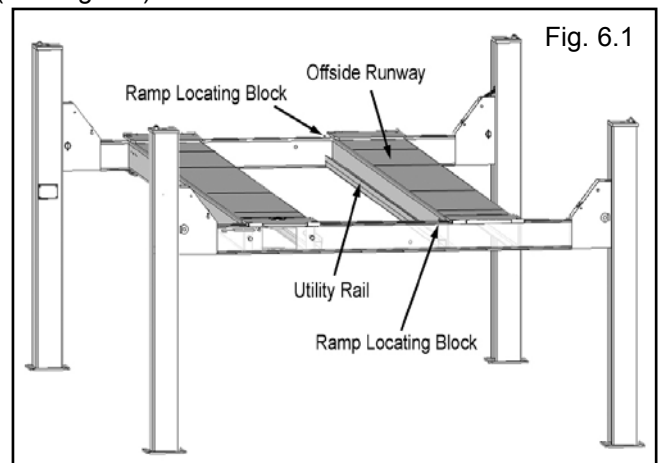

Fig. 6.1
1. Position the OFFSIDE RUNWAY on top of the Cross Tubes with the UTILITY RAIL located inside. (See Fig. 6.1)